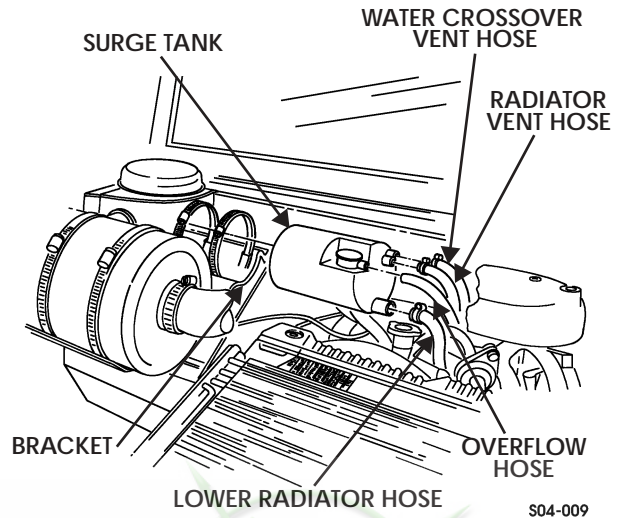

Figure 4-11: Surge Tank
2. Disconnect radiator vent hose from surge tank (Figure 4-11).
1. Install surge tank on bracket and tighten two clamps (Figure 4-11).